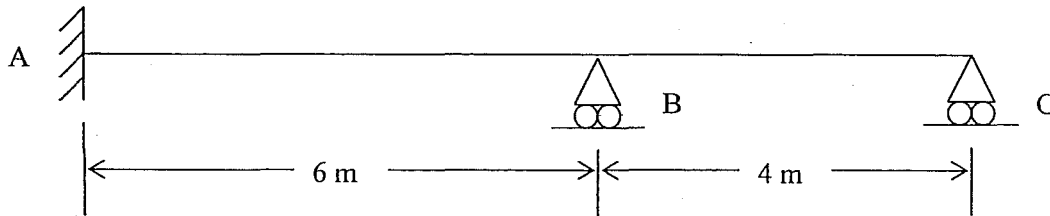

Figure Q3
a). Show that statical indeterminacy of the beam given in Figure Q3 is 2.